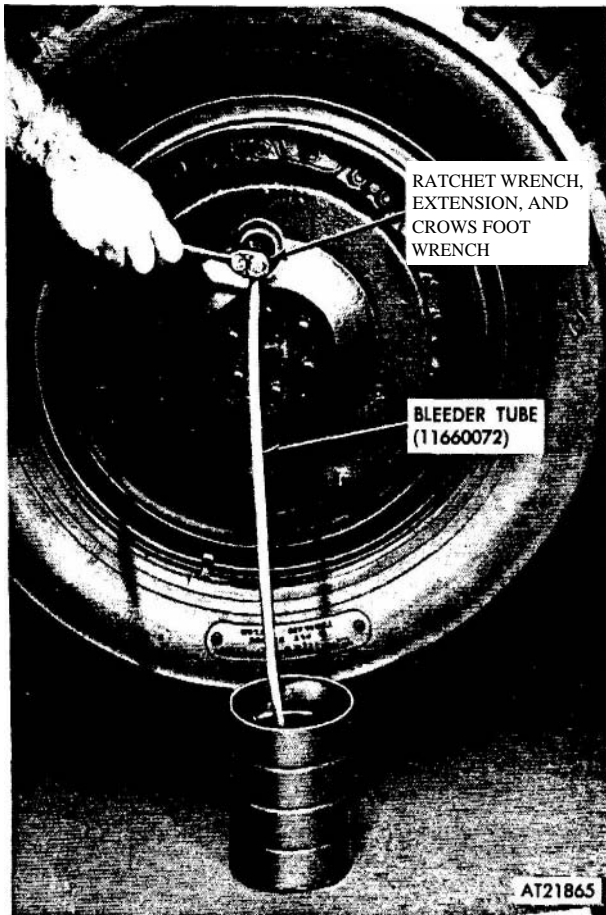

Figure 2-212. Bleeding the brakes.
(7) Rotate wheel and drum until inspection hole is at 12 o'clock and aligned with wheel cylinder bleed screw.
(8) Insert one end of bleeder tube (11660072) through the inspection hole and over the bleed screw. Submerge the other end of tube in a clean container containing brake fluid (fig 2-212).
(9) Using a $\frac{3}{8}$ inch drive ratchet wrench with extension and crowsfoot wrench attached, open the bleed screw and allow air to bleed off into the container (fig 2-212). Continue bleeding until no air bubbles are coming from the end of the hose.